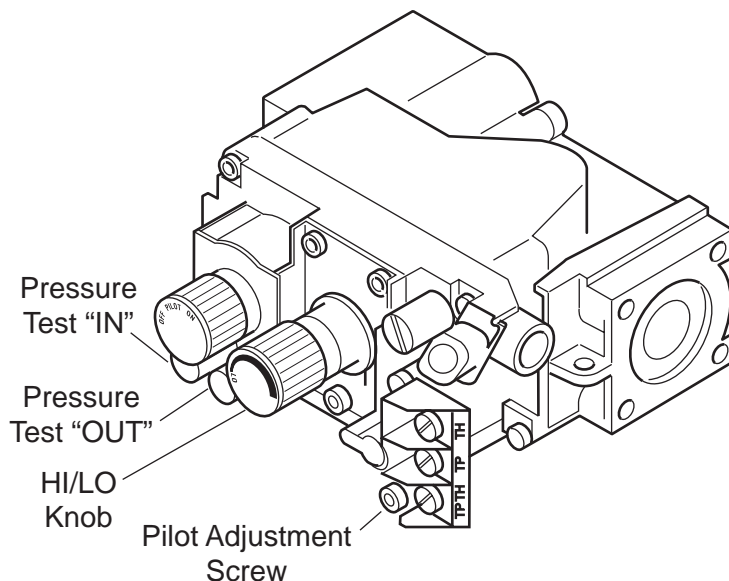

Figure 25 - Gas Pressure Check at Gas Valve
5. To check gas pressures at valve, turn captured screw counter clockwise 2 or 3 turns and then place tubing to pressure gauge over test point. Turn unit to high. See Figure 25. After taking pressure reading, be sure and turn captured screw clockwise firmly to reseal. Do not over torque. Check test points for gas leaks.